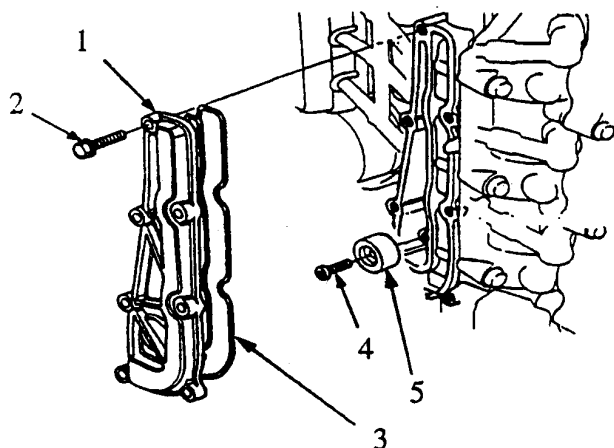

Fig. 11-1 Water jacket and anode
Release the water jacket (1) by removing the seven 6 x 22mm screws (2) around its periphery and remove the water jacket and packing (3) (Fig.11-1).